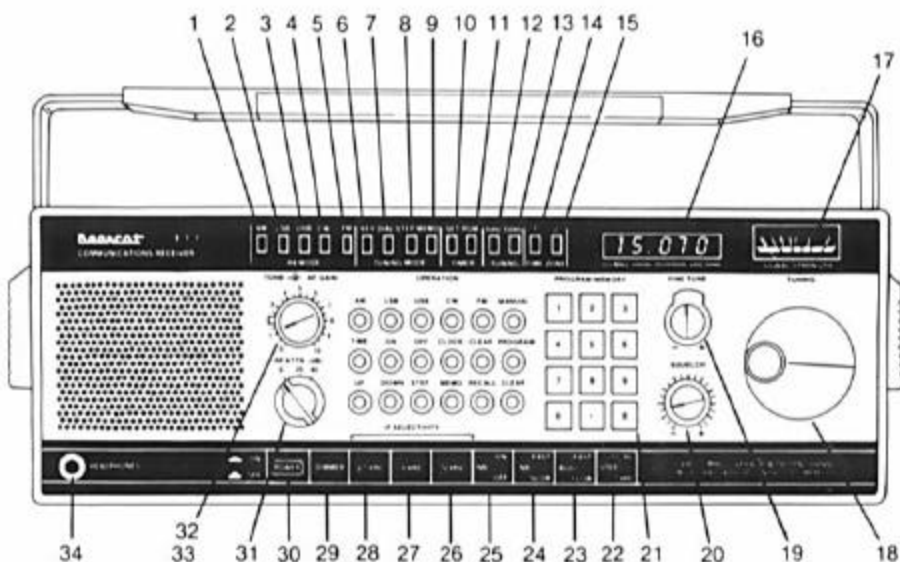

Figure 3
### CONTROLS—DISPLAY (Figure 3)
**CONTROLS—TUNING (Figure 3)**